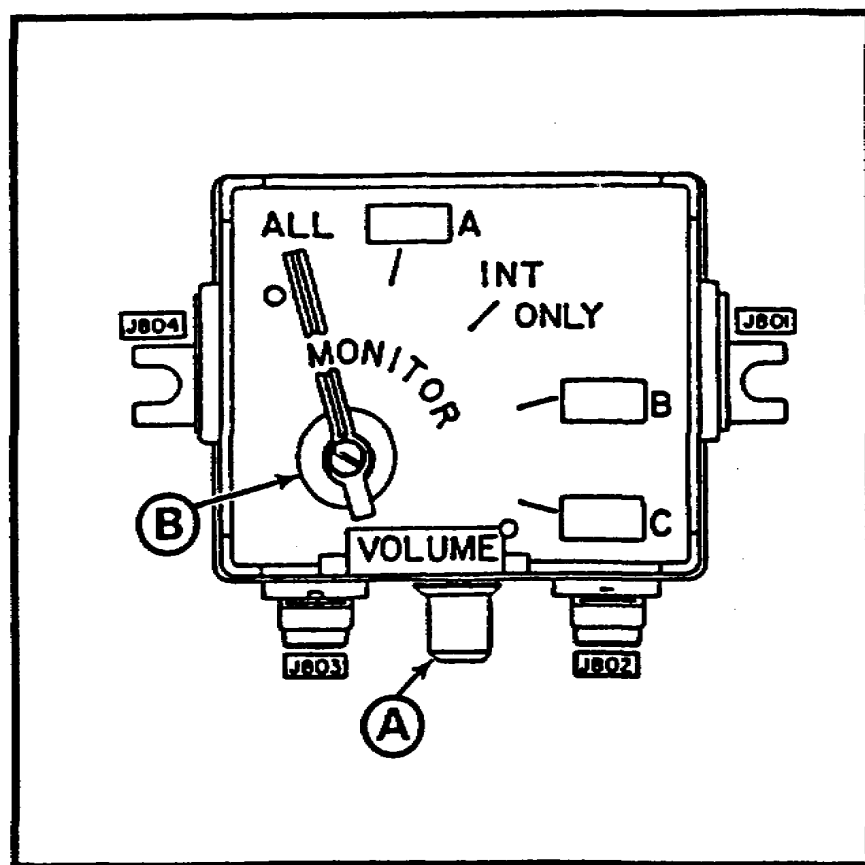

Figure 19. C-2298 VOLUME control and MONITOR switch.
(b) Control box C-2298. See Figure 19. Turn the VOLUME control (A) fully clockwise (CW)(maximum), and turn the MONITOR switch (B) to ALL.